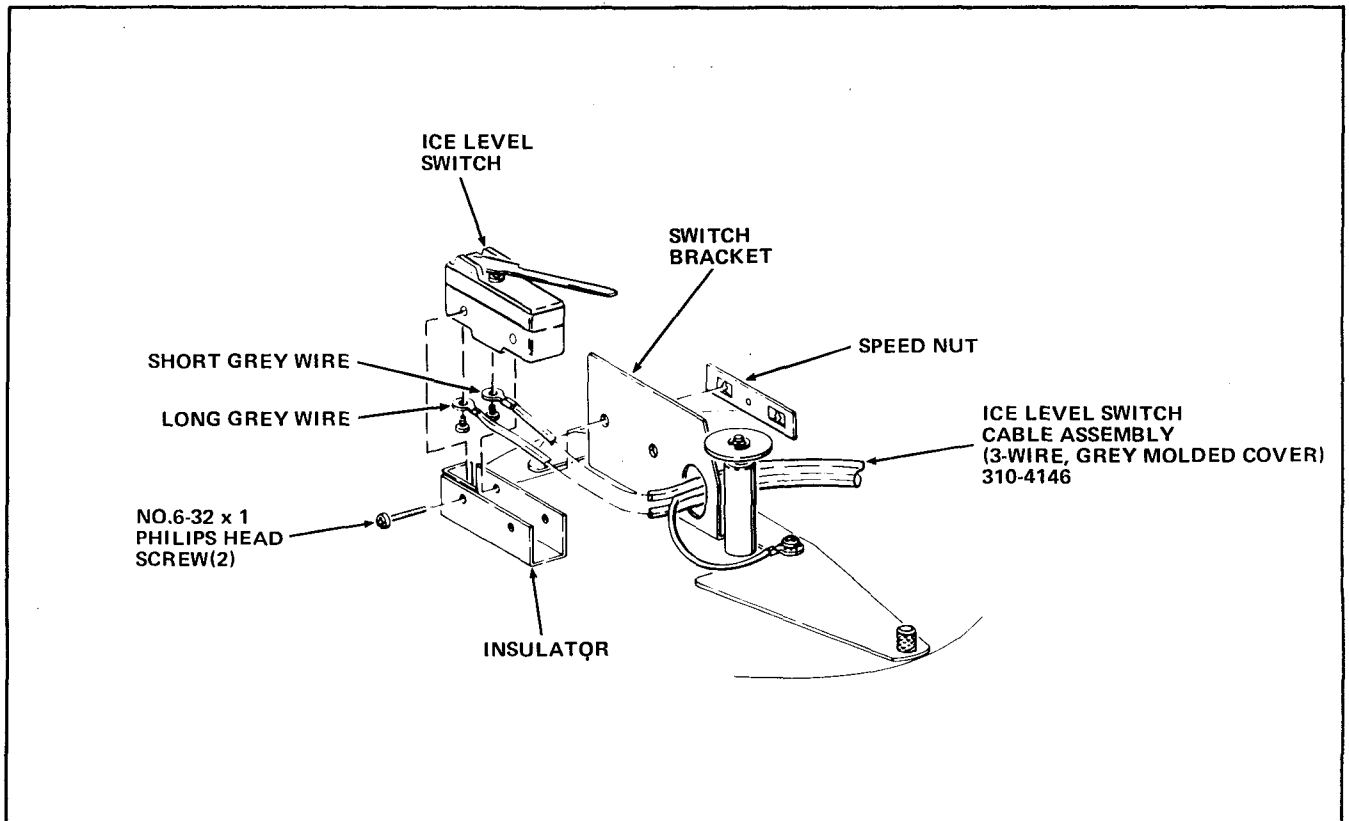

FIGURE III-5
2. Insert the replacement Ice Level Switch Cable Assembly - 3-wire Grey Molded Cover (part number 310-4146 included in the Kit) through the hole in the Switch Bracket from which the Cable Assembly was removed in step III-B7. Be sure the end of the Cable with the 3-brass ring-terminals is toward the Switch side of the Switch Bracket. See Figure III-5.